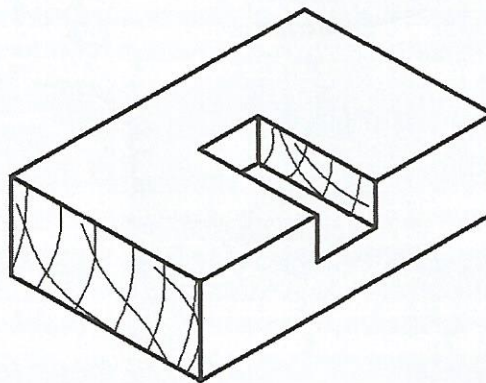

Figure 1
7. (a) **Figure 1** shows a stopped groove for a housing joint.